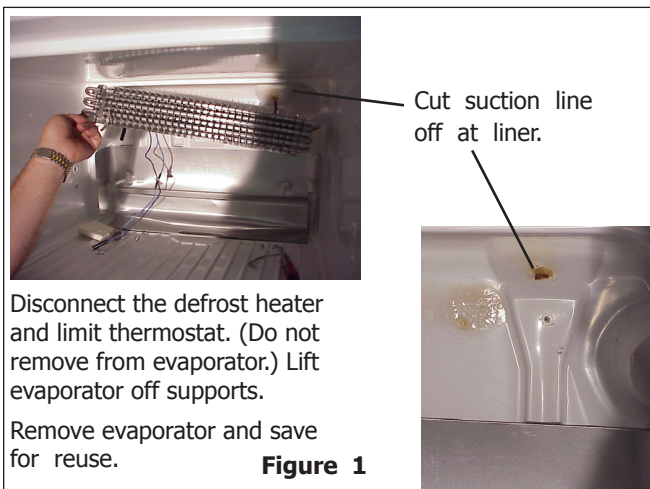

Figure 1
5. Cut suction line between weld and evaporator. Using file, score and break cap tube just above weld. (See Figure 1.)
- Cut heat exchanger off flush with liner. (See Figure 1.)